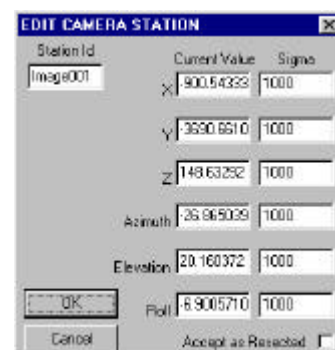

Figure 5.5: *Edit Camera Station* dialog.
Triangulation of two or more images (with or without bundle adjustment/resection) can be accomplished within *Australis* by either first manually setting the exterior orientation (EO) parameters of the two or more images, or by using previously resected images. To enter EO parameters, right click an image icon in the project view and select **Edit Exterior Orientation** from the popup menu (Fig. 3.2). This popup menu is also accessible within the image view by right clicking anywhere within the image. The *Edit Camera Station* dialog is then displayed, where the exterior orientation parameters can be entered (Fig. 5.5). To permit triangulation with this image without rigorously resecting, the *Accept as Resected* box at the lower right of the dialog must be checked.